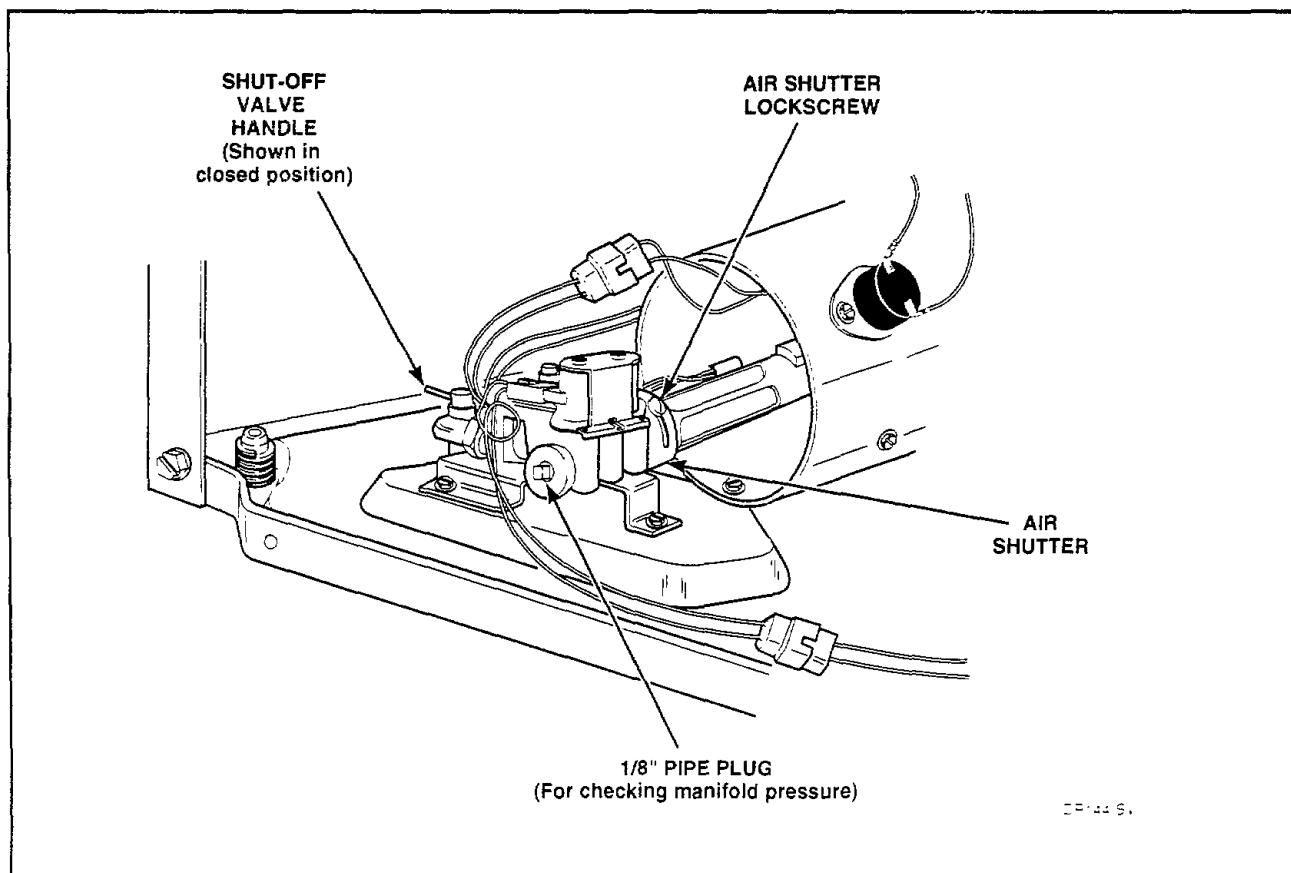

Figure 46
- Allow the dryer to operate for approximately five minutes, then loosen the air shutter lockscrew, *Figure 46*.
- After proper flame is obtained, tighten air shutter lockscrew securely, *Figure 46*.